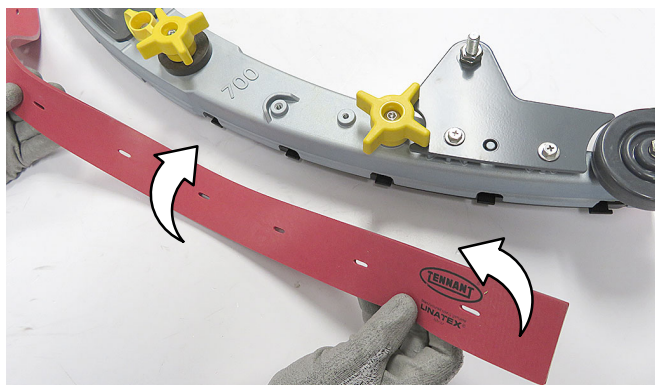

FIG. 138
4. Rotate the rear blade to a new wiping edge and reinstall blade (Figure 138). Make sure to align the slots in the blade with retainer tabs.